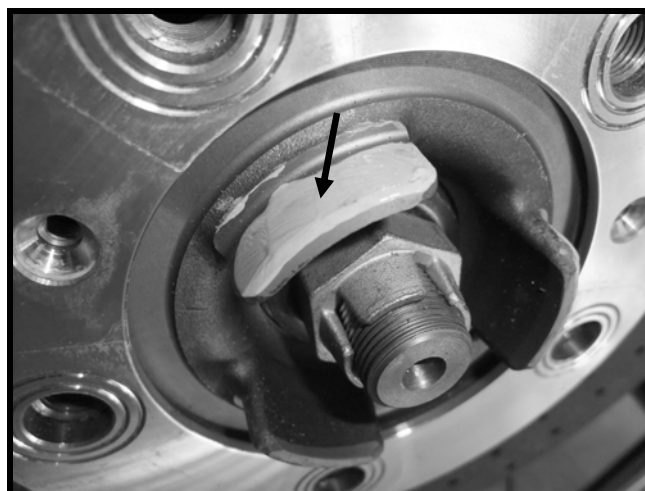

Fig. 05
- 1 Apply a thin layer of the supplied grease onto the cleaned hub. (Fig. 05)